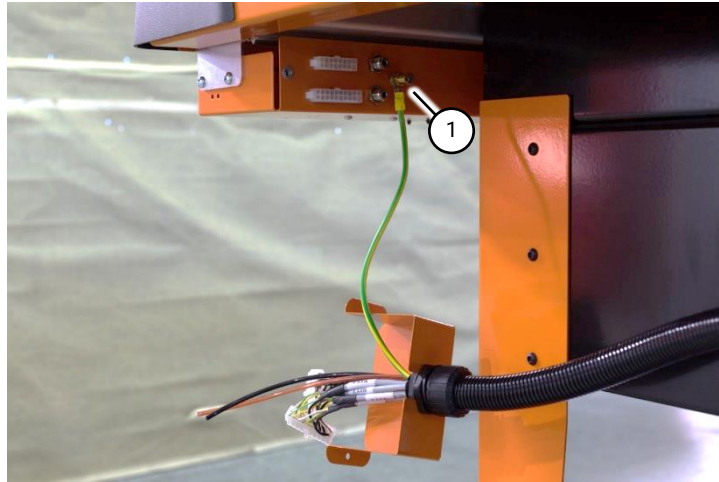

Fig 16 Earth connection
1.1 Connect the earth wire to the brass stud (Fig 16 (1)).